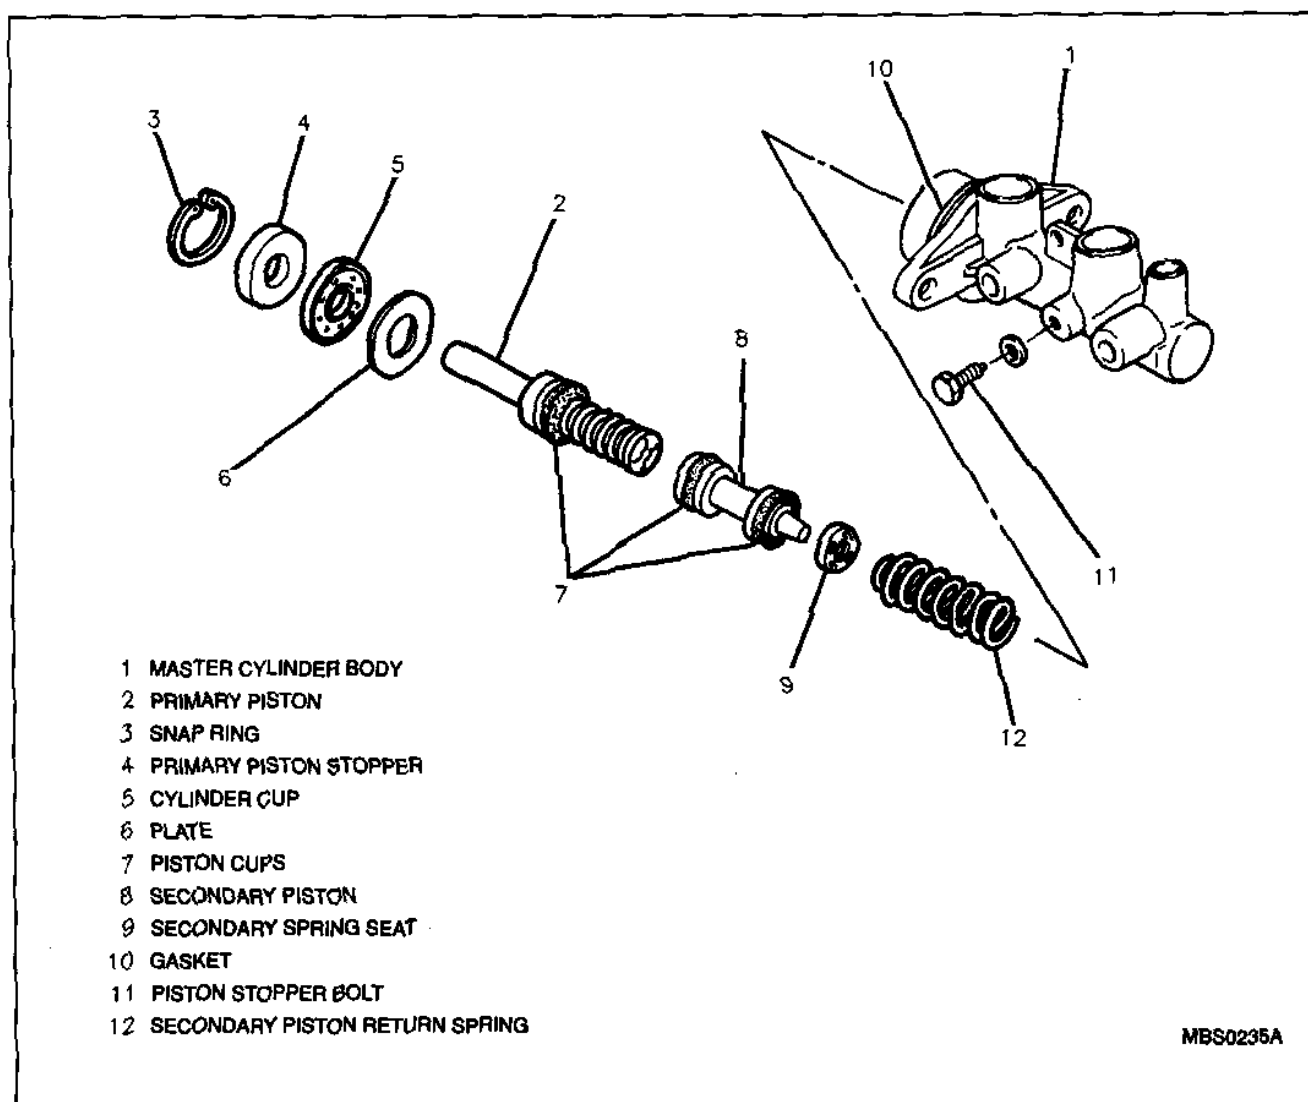

Figure 7—Master Cylinder Components
Figures 7 through 10
1. Secondary piston return spring and return spring secondary seat (Figure 7).